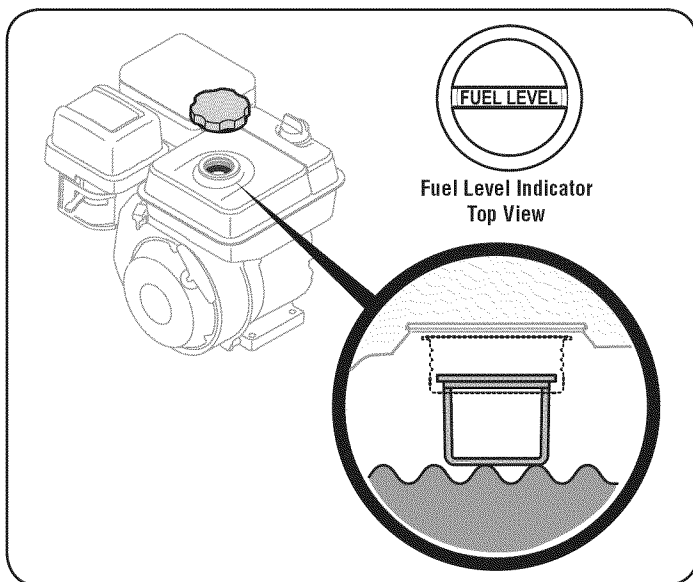

Figure 9
5. Fill the tank until the fuel reaches the "fuel full" indicator mark. See Figure 9.